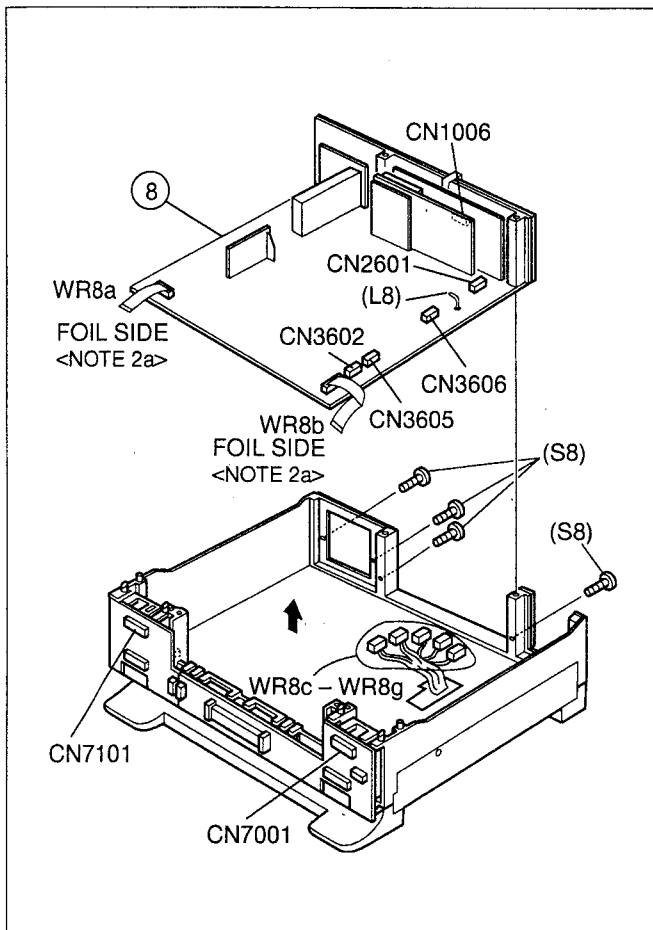

Fig. D8
- (1) Remove the Top cover, SW REG board assembly and Front panel assembly. (See DISASSEMBLY/ASSEMBLY METHOD.)
- (2) Remove the flat wires CN7101 on the JACK board assembly, CN7001 on the DISPLAY board assembly. (See Fig.D8 of DISASSEMBLY/ASSEMBLY METHOD.)
- (3) Remove the wires CN3602, CN3605, CN3606 and CN2601 on the MAIN board assembly. (See Fig.D8 of DISASSEMBLY/ASSEMBLY METHOD.)
- (4) Remove the flat wire CN1006 on the 3D SVHS board assembly. (See Fig.D8 of DISASSEMBLY/ASSEMBLY METHOD.)